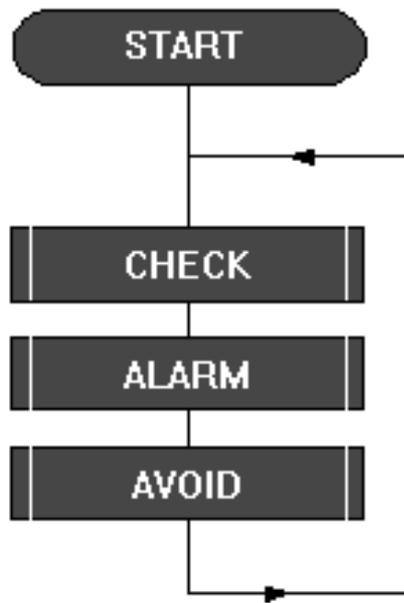

Fig 4.8. Main routine.
1. The main routine is created as a series of Do Macro commands as shown in fig 4.8.